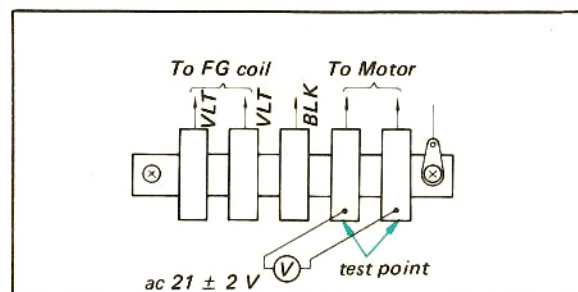

Fig. 2-9. Test point for electromagnetic brake adjustment
2. Set the turntable for 33-1/3 rpm operation, and then measure the voltage applied to the motor at the 5-p terminal strip as shown in Fig. 2-9. It should be within the limits of 21 ± 2 volts ac. If not, readjust the clearance between the turntable and the magnet by replacing the mounting plate as previously described.